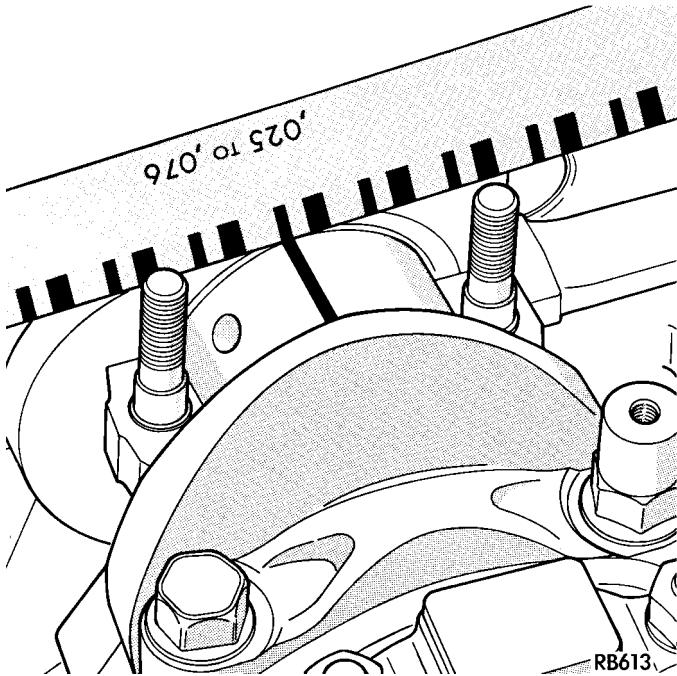

Fig. 61 Measuring Connecting Rod Bearing Clearance
- (1) Rotate the crankshaft until the connecting rod to be checked is at the bottom of its stroke.
- (2) Remove oil film from surface to be checked. Plastigage is soluble in oil.
- (3) Place a piece of Plastigage across the entire width of the bearing shell in the bearing cap approximately 6.35 mm (1/4 in.) off center and away from the oil hole. In addition, suspect areas can be checked by placing Plastigage in that area.
- (4) Assemble the rod cap with Plastigage in place. Tighten the rod cap to the specified torque. **Do not rotate the crankshaft while assembling the cap or the Plastigage may be smeared, giving inaccurate results.**
- (5) Remove the bearing cap and compare the width of the flattened Plastigage with the scale provided on the package (Fig. 61). Locate the band closest to the same width. This band indicates the